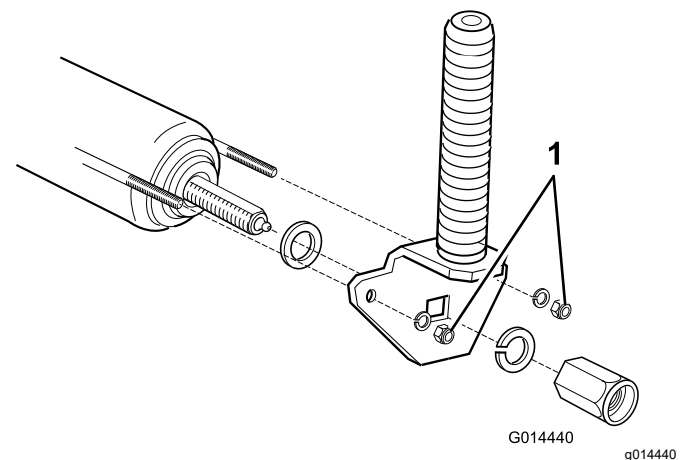

Figure 83
2. Tighten the nuts 4 full turns to correctly tension the wire (Figure 83).